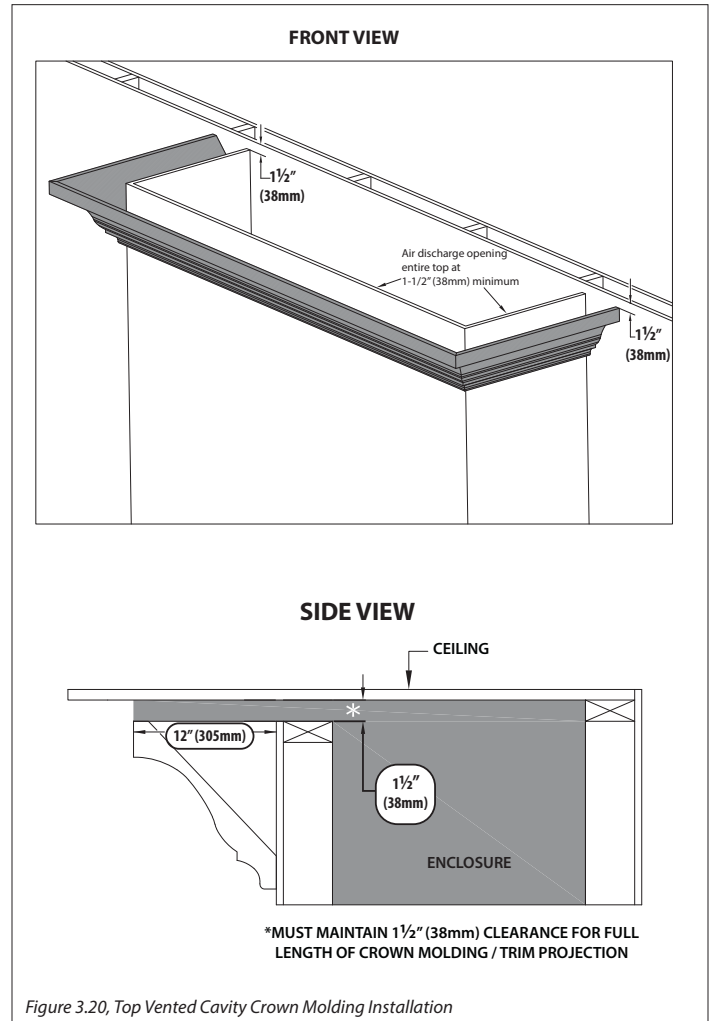

Figure 3.20, Top Vented Cavity Crown Molding Installation
- Figure 3.20 shows the installation of crown molding or similar trim work that goes up to the edge of the air discharge opening. This molding or trim cannot decrease the minimum opening requirement.